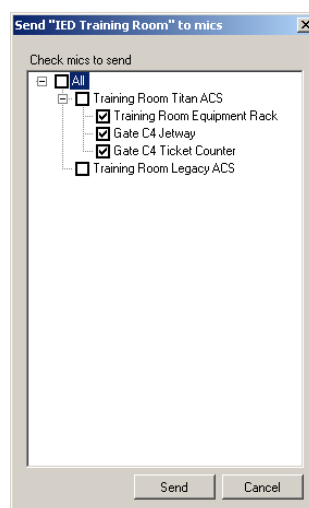

Figure 6-17: Transfer Window
2. Click the **Send to Mics** button in the toolbar to open the transfer selection window as shown in Figure 6-17. This window will display all announcement controllers and the mic stations available in a tree view. Each announcement controller can be expanded or closed by clicking the + or - next to the checkbox.